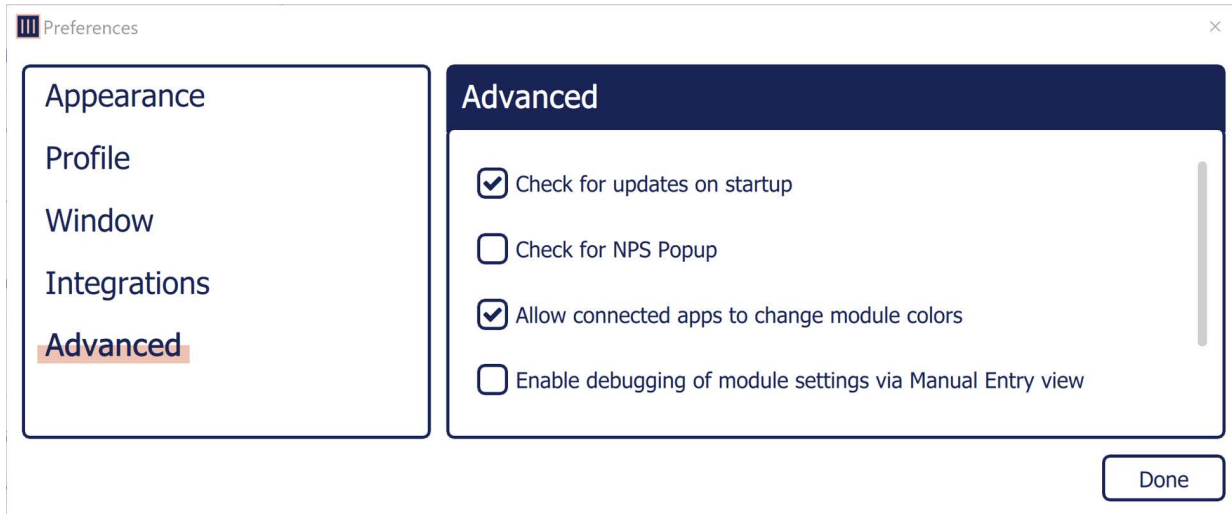

Figure 22 - The Preferences Window for Monogram Creator (showing Advanced preferences)
3. In the menu on the left side, select **Advanced**, and then clear the **Check for updates on startup** check box (Figure 22).